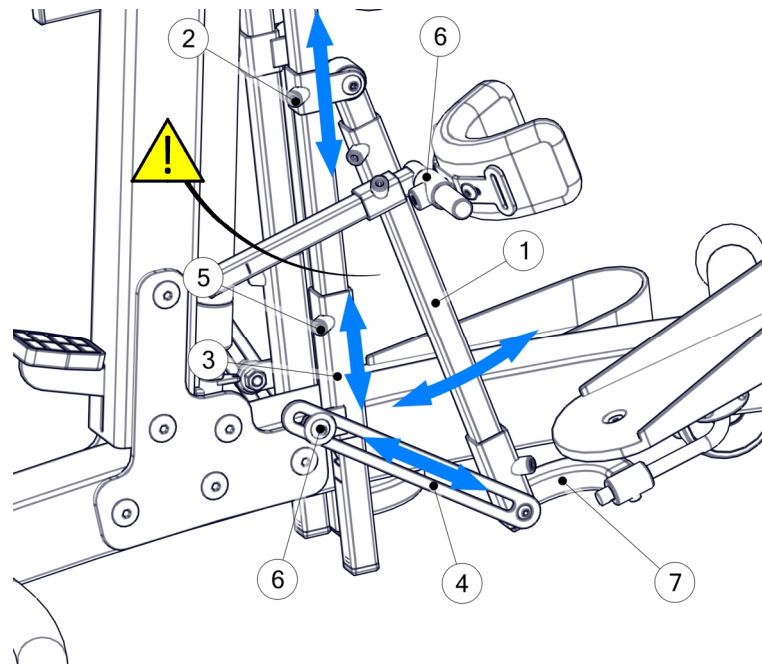

Fig. 17
Foot platform with the regulated angle (Fig. 17) is used interchangeably with the standard foot platform. This platform provides the possibility to locate the foot platform with the consideration of the necessity to implement flexion of the lower leg. In order to mount this foot platform, it is essential to remove the standard foot platform and the knee support set (6). Place the knee support set (6) on the seat (1) of the foot platform with adjusted lower leg angle.